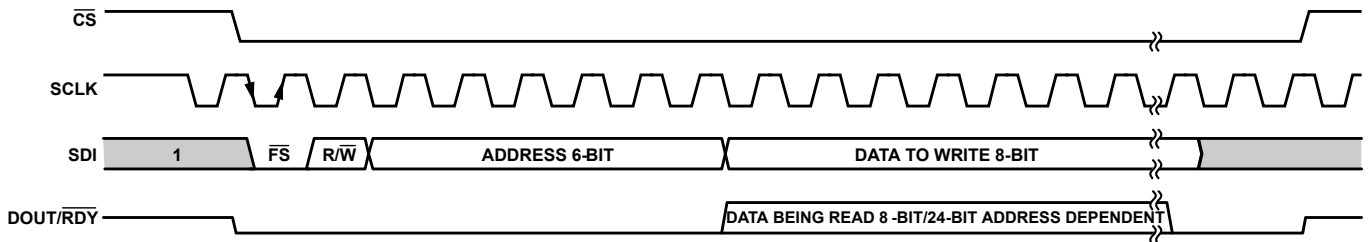

Figure 98. SPI Basic Read/Write Frame
The format of the SPI read or write is shown in Figure 98. The MSB is the first bit in both read and write operations. An active low frame start signal (\overline{FS}) begins the transaction, followed by the R/W bit that determines if the transaction being carried out is to a read (1) or a write (0). The next six bits are used for the address, and the eight bits of data to be written follow. All registers in the ADAQ7767-1 are 8 bits in width, except for the ADC_DATA register (Register 0x2C), which is 24 bits in width. In the case where \overline{CS} is tied low, the last SCLK rising edge completes the SPI transaction and resets the interface. When reading back data with \overline{CS} held low, it is recommended that SDI idle high to prevent an accidental reset of the device where SCLK is free running (see the Reset section).